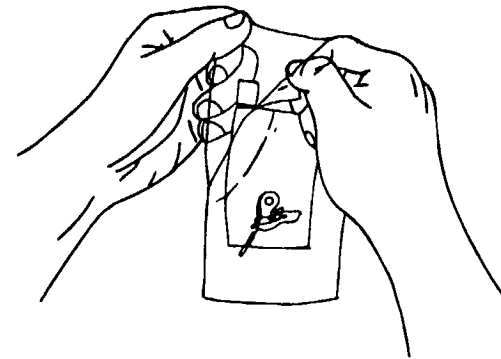

FIGURE 3: Remove Glucose Sensor from Sterile Package
Step 2. Remove the Glucose Sensor from the sterile package. Grasp the package on either side of the top seal and peel it apart (Figure 3). Place the assembly onto a clean/dry surface.